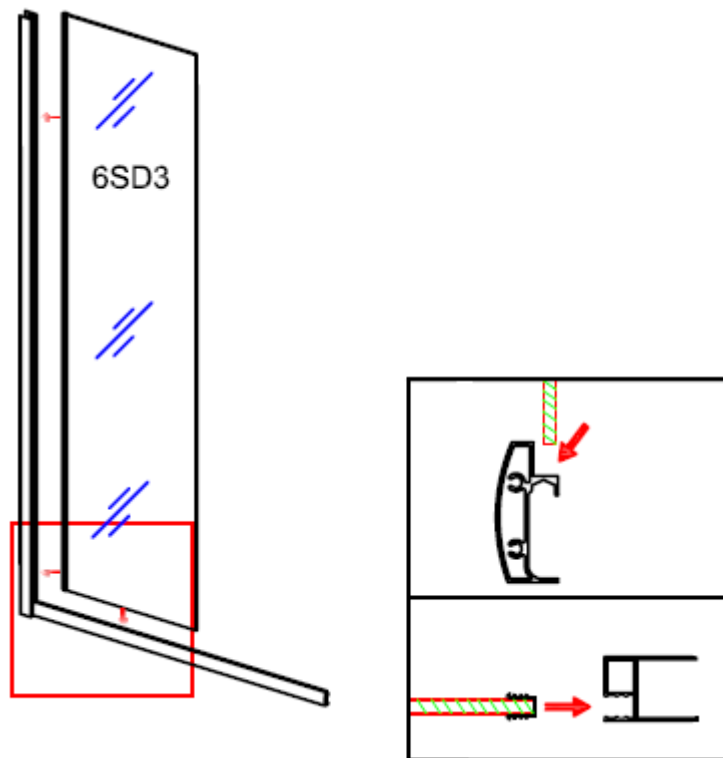

Figure 5
5. Click the U shape strip onto the fixed panel(6SD3) vertically.Put the fixed panel down to the rail profile(6SD5) and vertical to the fixed profile(6SD2),as showed in figure 5.